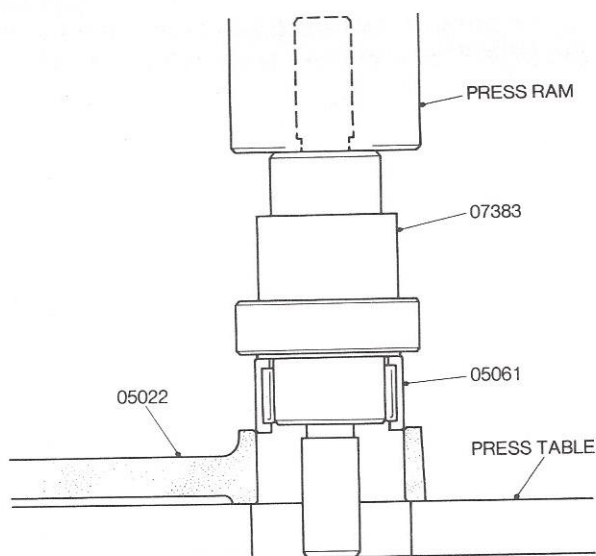

Figure 20 Assembly of the Connecting Rod Needle Roller Bearing
- 11.3.1 Smear a Needle Roller Bearing with Kango Hammer Grease and locate it onto the smaller end of the Assembly/Dismantling Press Tool 07383. Place the bearing into the mouth of the bore of the Connecting Rod, centralise the assembly under the press ram and press the bearing in until the Assembly/Dismantling Press Tool touches the Connecting Rod. See Figure 20.